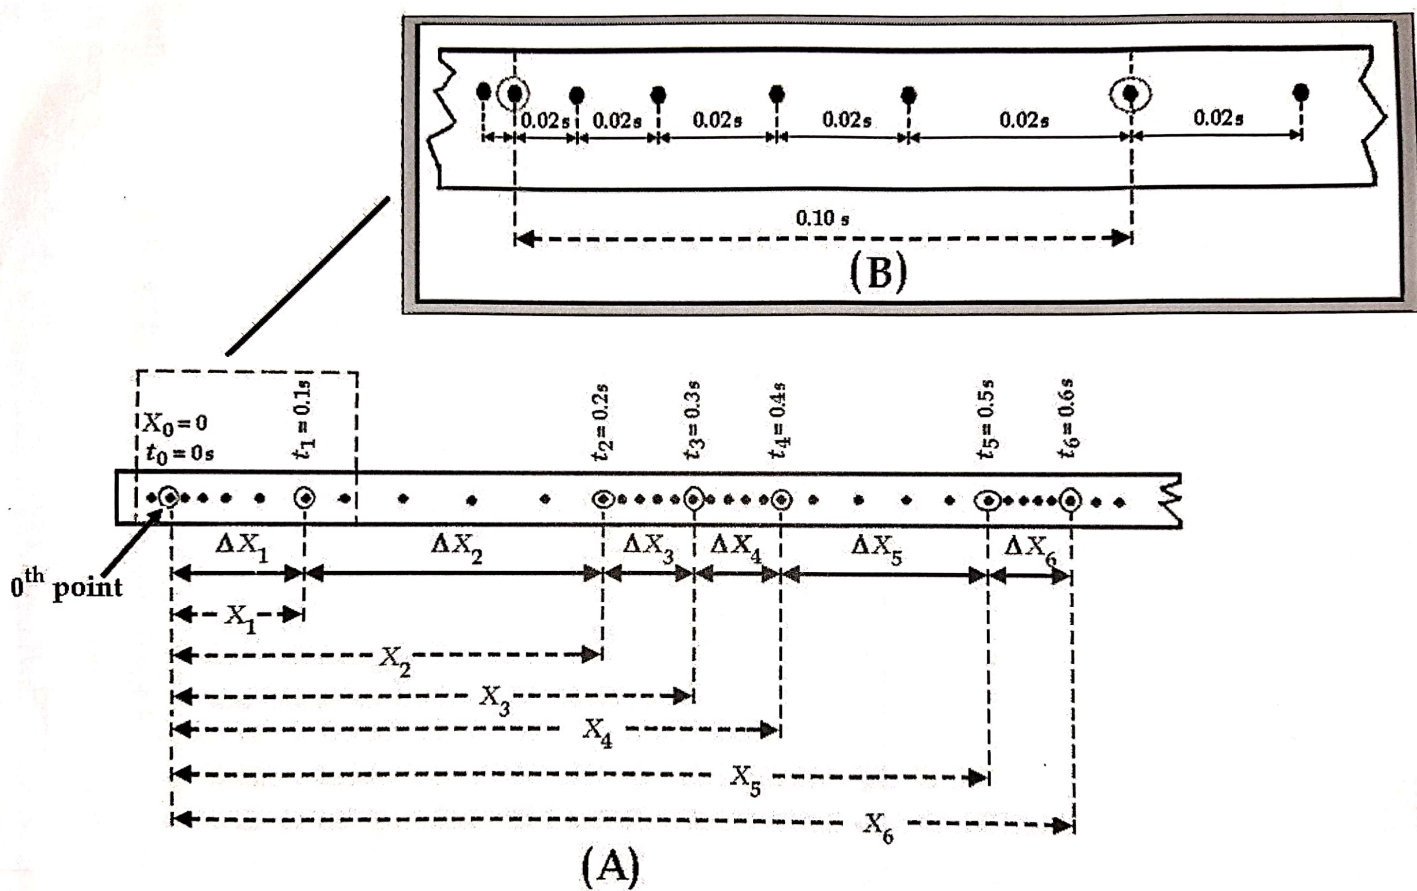

Figure 4.2: A) A typical Ticker Timer tape. B) A blow-up to of the rectangle enclosed by dashed lines (in A).
5. Usually the first few dots on the tape are not well defined and you can neglect them. Draw a circle around the first clearly defined dot; this will be your reference 0 point ($X_0 = 0, t_0 = 0$). See Figure 4.2.
6. Count five dots after the 0th point and circle the last one. At this point $t_1 = 0.1$ s. See Figure 4.2.